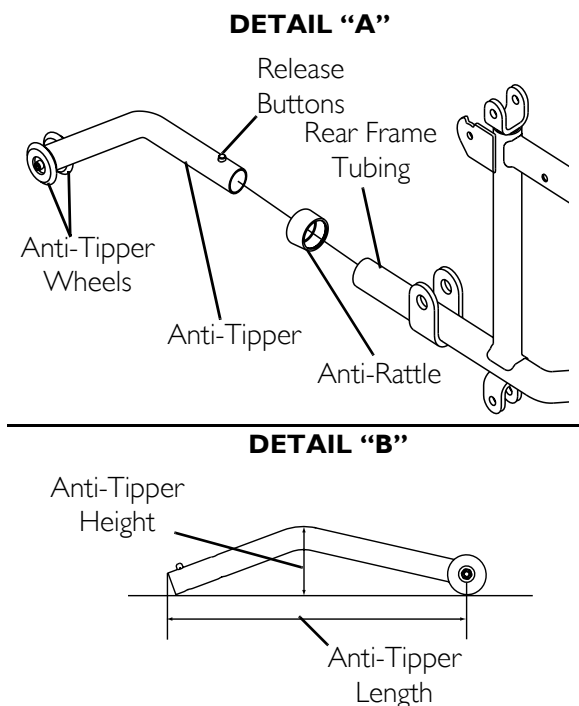

FIGURE 10.7 Installing Anti-Tippers
NOTE: For this procedure, refer to FIGURE 10.7.
*NOTE: Refer to Detail "B" of FIGURE 10.7 and the following chart to ensure the correct anti-tipper is installed in the wheelchair. Seat-to-floor heights are approximate depending on front caster type. The anti-tipper height measurement **MUST** be taken with the anti-tipper on a flat surface.*